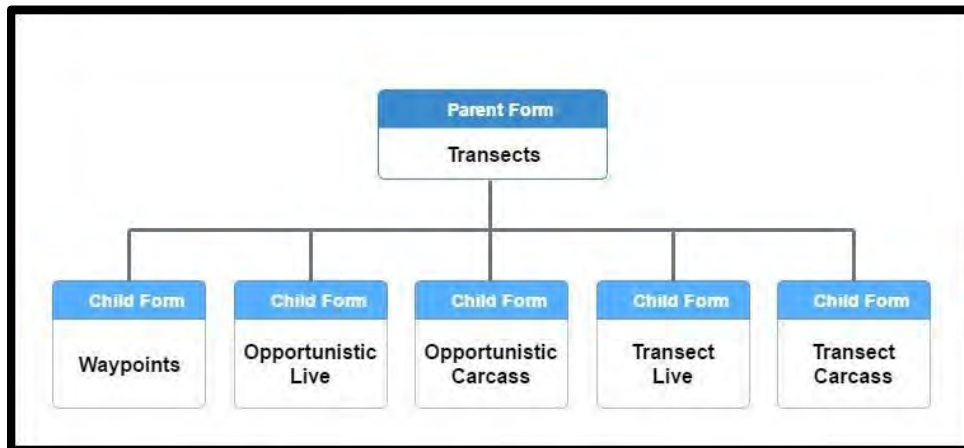

Figure 7-2
- **Sub-form (Parent and Child)** – A sub-form is a form that can only be accessed through and is dependent on another form. This dependency is also referred to as a parent and child relationship. For example, the parent form, Line Distance Transects, is the access point for several child forms. The child forms are Waypoints, Transect Live Observations, Opportunistic Live Observations, Transect Carcass Observations, and Opportunistic Carcass Observations. A child form cannot exist until a parent form is created. This is called a one-to-many relationship; a single transect can have many observations or waypoints, but an individual waypoint or observation can belong to only one transect. Figure 7-2 diagrams the Parent and Child structure of our transect database.